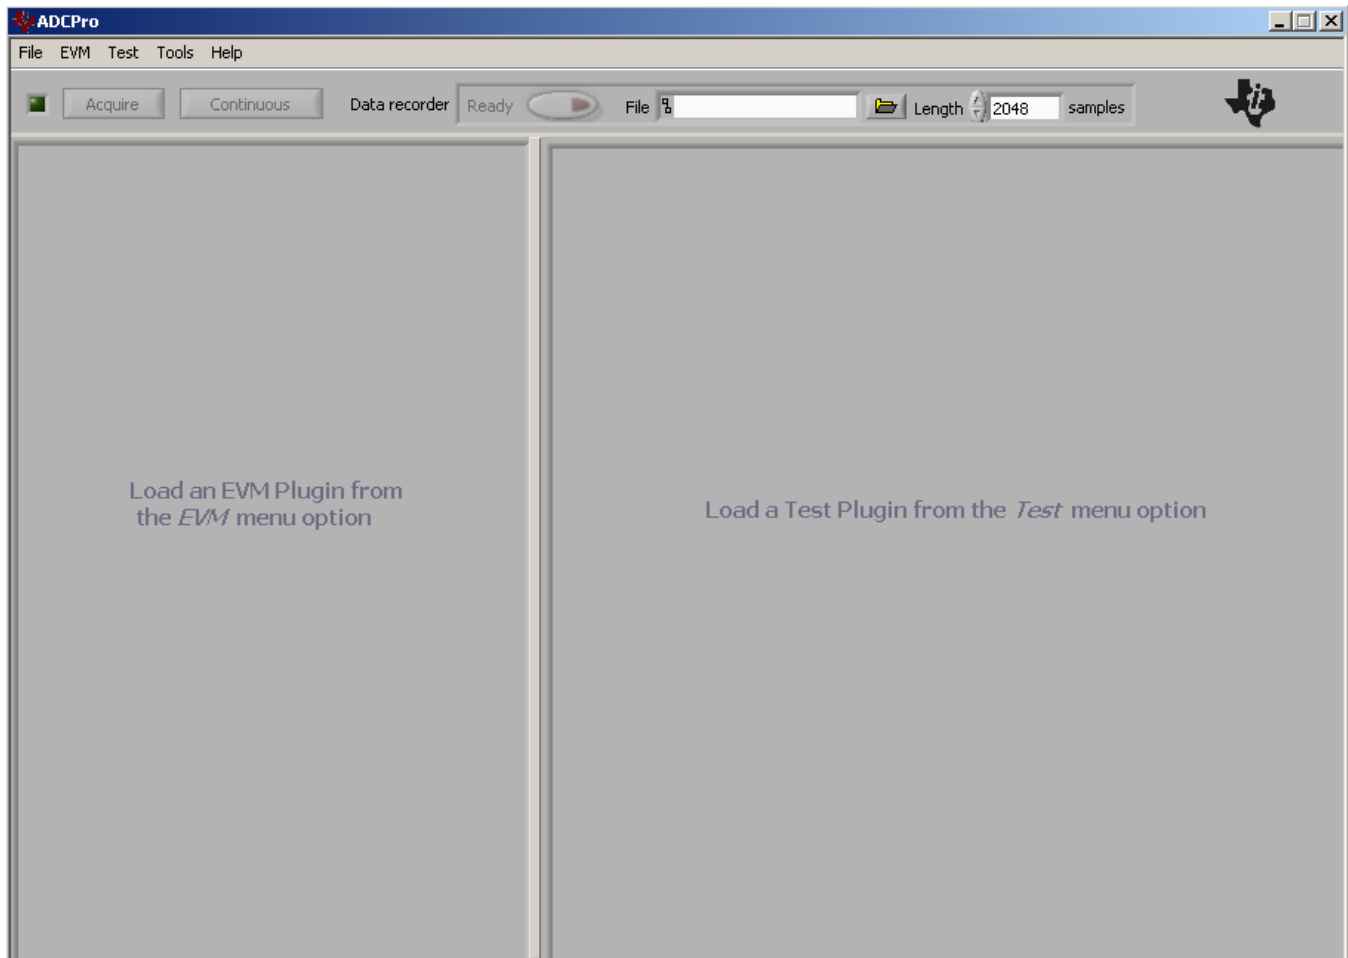

Figure 13. ADCPro Software Start-up Display Window
1. Start the software by selecting *ADCPro* from the Windows Start menu. The screen in Figure 13 appears.